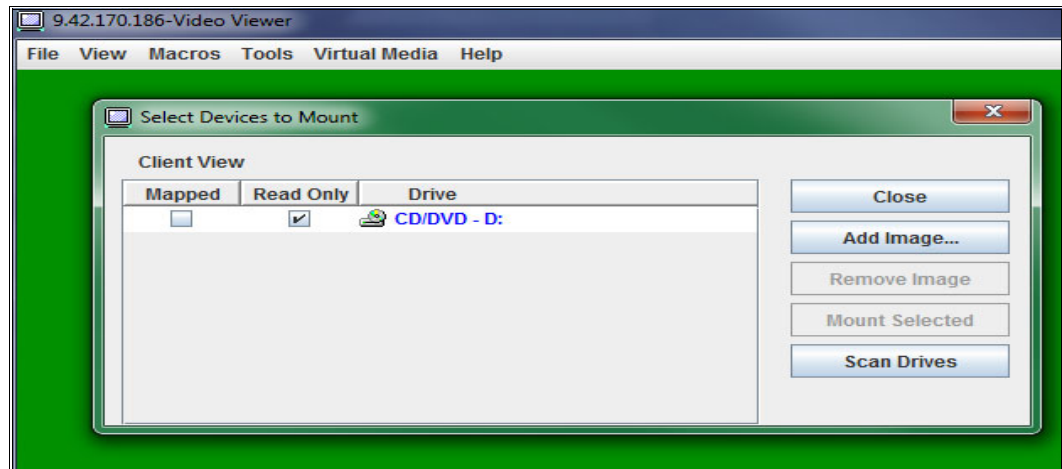

Figure 5-7 The Select Devices to Mount panel
6. Now, with virtual media active, from the Virtual Media drop-down menu, click **Select Devices to Mount** to bring up the Select Devices to Mount panel shown in Figure 5-7.